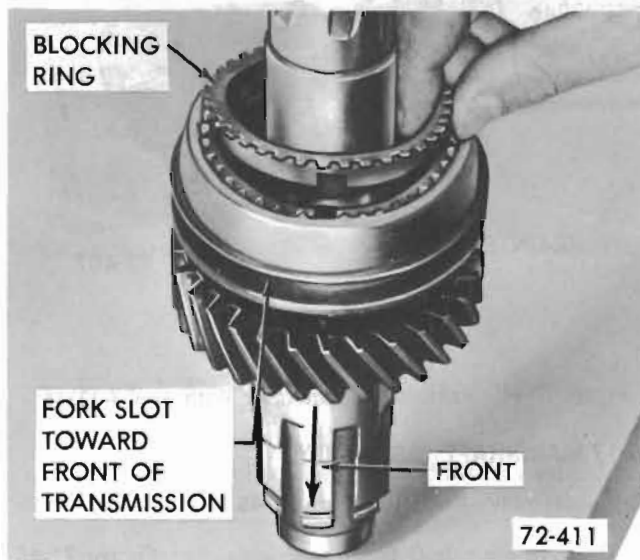

Figure 72-48 - Installing Blocking Ring
2. Install first-second speed synchronizer assembly onto mainshaft (sliding sleeve taper toward the rear, fork slot toward front), together with a blocking ring on either side so their keyways line up with the clutch keys. See Figure 72-48.